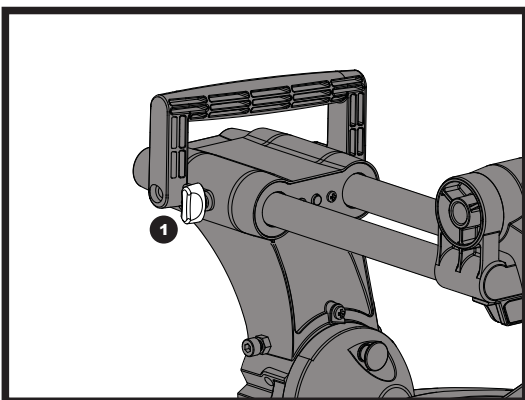

Fig 29
- 1) For chop cutting operations on small workpieces, slide the cutting head assembly completely toward the rear of the unit and tighten the carriage lock knob (1).
- 2) To cut wide boards up to 300mm, the carriage lock knob must be loosened to allow the cutting head to slide freely. (See fig. 29)